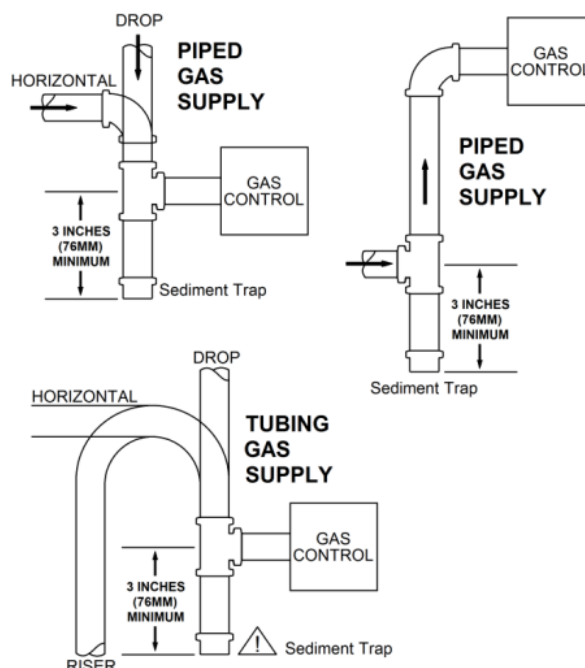

Figure 21 - Sample Gas Supply Sediment Traps
NFPA Code and Hearthstone require the use of a dedicated sediment trap just upstream of the unit. Damage to the valve, or other components due to the lack of a sediment trap are not covered by warranty (see Figure 21).
- Install the sediment trap (where required) in the gas supply line to prevent contamination of the gas valve (see Figure 21)